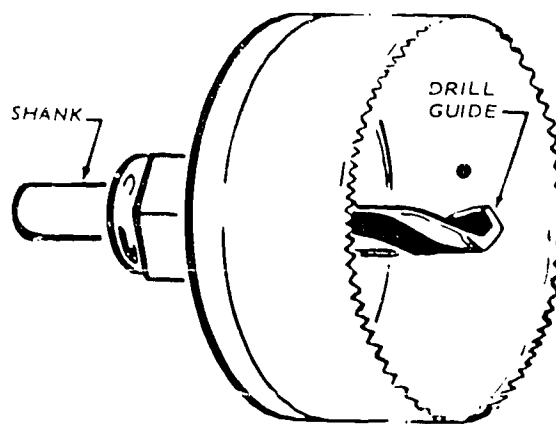

Figure 1-21. Hole saw.
**Hole Saws.** Hole saws such as that illustrated in figure 1-21 are used to cut holes in light gage sheet metal and wood. They may be purchased in sizes up to 4 inches in diameter. A 1/4-inch electric drill is recommended for hole saw sizes up to 1 1/2-inches and a half inch electric drill is recommended for sizes up to 4 inches in diameter. The hole saw is useful for jobs such as venting hot water heaters, because most heater vents are 3 inches in diameter. Another use is for cutting holes in fire doors or partitions, since these items are usually covered with light gage metal. When drilling with hole saws, use only enough pressure to cut evenly. Too much pressure causes the saw to bind and create excessive strain on the electric drill motor.